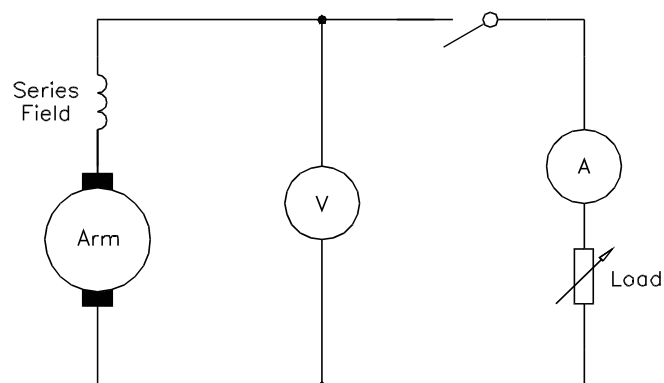

Figure 55. Series generator
28. A shunt motor is similar to a shunt generator in that its field winding is in parallel with the armature. The supply is connected to the leads which were the output leads on the generator as shown if Figure 55.